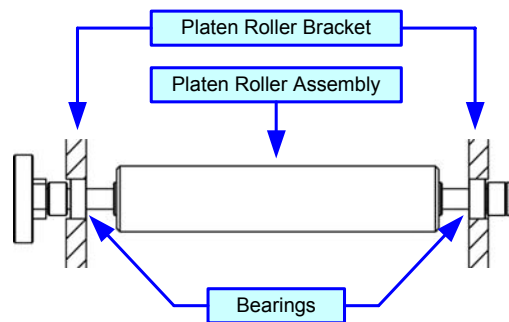

Figure 7-3a, Platen Roller Replacement
- 4 Move the bearings on each end of the platen roller inward from within the platen roller bracket (Figure 7-3a).